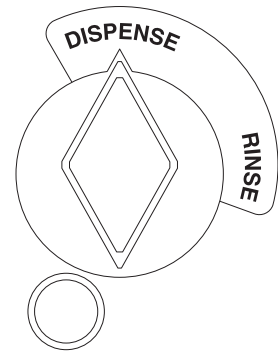

FIG 7 Dispense/Rinse Switch
1. Open the refrigerated compartment's door to access the "DISPENSE/RINSE" Knobs Fig 7.